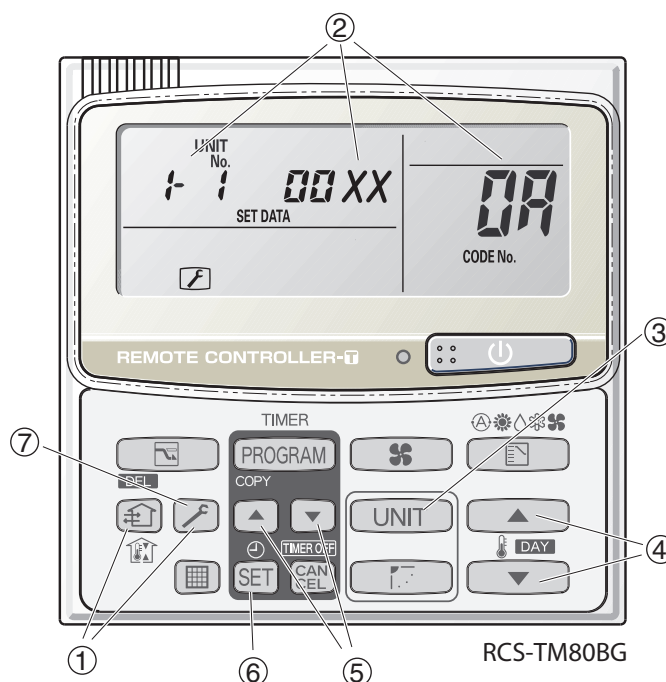

Fig. 1
- "SET DATA," unit No. "1-1" (or "ALL" in the case of group control), item code "01," and settings data "00XX" are displayed blinking on the remote controller LCD display (Fig. 1). At this time, the indoor unit fan (or all indoor unit fans in the case of group control) begins operating.